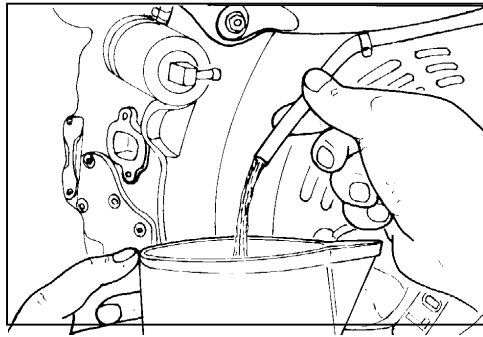

Figure 5
- ❖ Remove fuel tube (figure 25, #32) and empty the fuel tank (figure 25, #1). See figure 5.